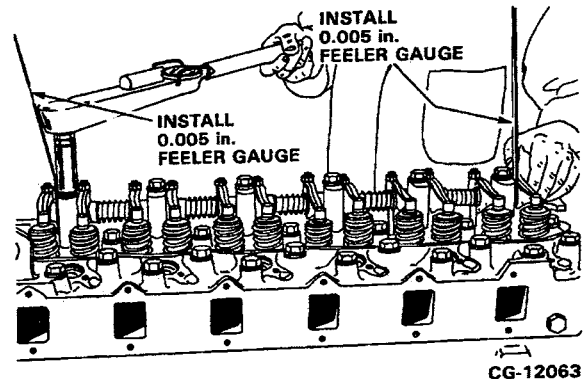

Figure 4.70. Install Feeler Gauges to Prevent Rocker Lever Binding
- b. Run the long cylinder head bolts in finger-tight (except the two end bolts). Place a 0.005 in. feeler gauge between the outside brackets and the rocker levers to prevent binding. Refer to Figure 4.70.